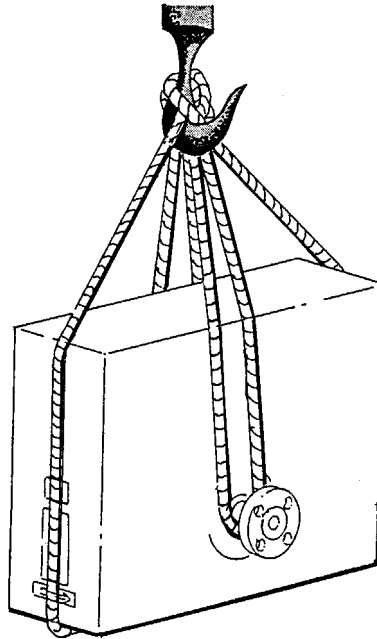

Figure 2. Support Required when Moving a Flowtube
- ◆ Smaller flowtubes may be removed from the shipping container and installed between the upstream and downstream pipe connections by hand lifting and carrying. However, to avoid personal injury and/or damage to the flowtube, larger flowtubes must be lifted and restrained as shown in Figure 2. Note that in addition to using the upstream and downstream connections, the flowtube must also be restrained at both sides to prevent rotation as the flowtube is lifted.